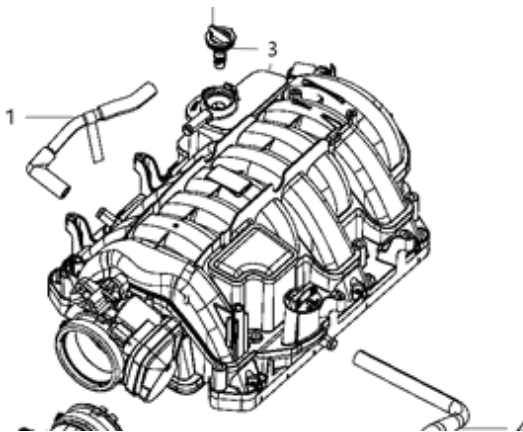

Figure 3 - Removing the Middle Section Factory PCV Hose (5.7L)
- a. For the 5.7L HEMI, this shown as Item 1 in Figure 3.